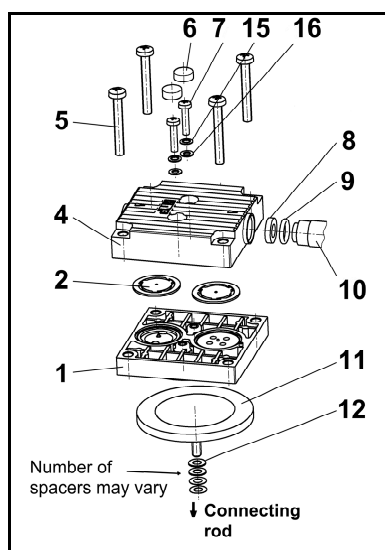

Fig. 5: Pump head
1. Push down one diaphragm (Fig. 5/11) to bring the other diaphragm to top dead centre.
2. Lift the edge of the highest diaphragm (11) and, gripping it on opposite sides, unscrew it by turning anti-clockwise.
1. Pull the connecting tube (Fig. 5/10) out of one of the two head plates (4); take care to ensure that the sealing (8) and the O-ring (9) are not lost.
2. For one pump head: Use a small screwdriver to undo the two screw caps (6) on the pump head and then undo the screws (7).
3. Separate the head plate (4) from intermediate plate (1).
4. Remove the valve plates/sealings (2) from the intermediate plate (1).
5. Check that the valve seats, intermediate plate (1) and the head plate (4) are clean; if scratches or distortion are evident on these parts they should be replaced.
6. Lay the new valve plates/sealings (2) in the recesses in the intermediate plate (1). The valve plates/sealings for suction and pressure sides are identical, as are upper and lower sides of the valve plates/sealings.
7. Check that the valve plates/sealings (2) are not deformed by moving them gently sideways in their recesses.
1. Put the sealing (fig. 5/8) into the head plate (4); push the connecting tube (10) into the hole in the head plate (4).